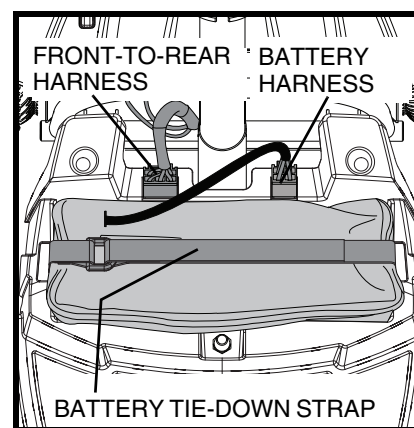

Figure 23. Harness Connections
5. Disconnect the battery harness. See **figure 23**.
6. Disconnect the front-to-rear harness. See **figure 23**.